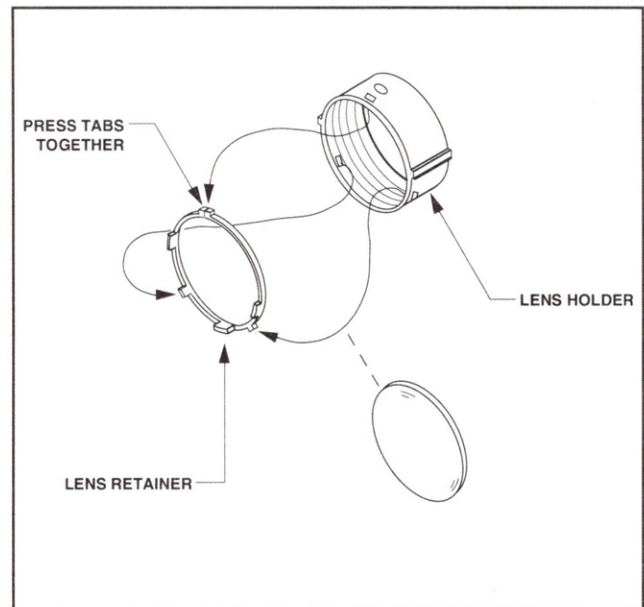

Figure 3
3. As shown in Figure 3, remove retainer from holder by first pressing two top tabs together and then pulling on projecting tabs. Remove lens.